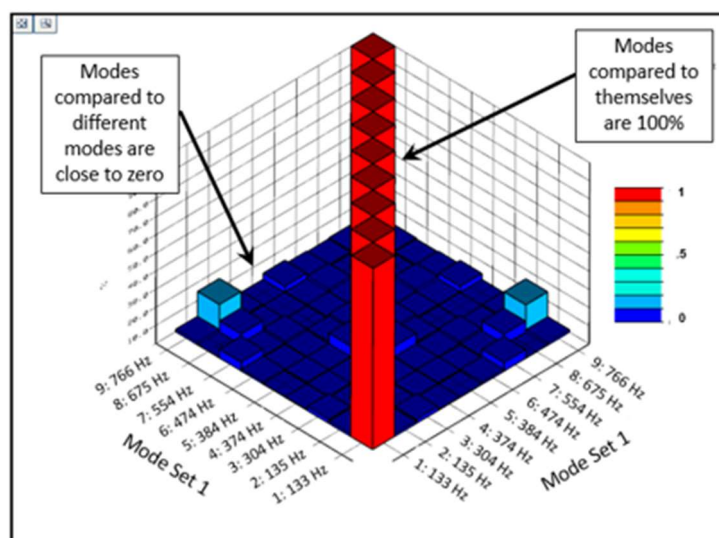

*Figure 2: Mode shapes with 1.5% MAC value*
- If the mode shapes are very different, the MAC value will be close to zero, as shown in *Figure 2*.
For modes with different shapes, the MAC is less than 1. Shapes that are very different will have a value close to zero as shown in *Figure 2*.